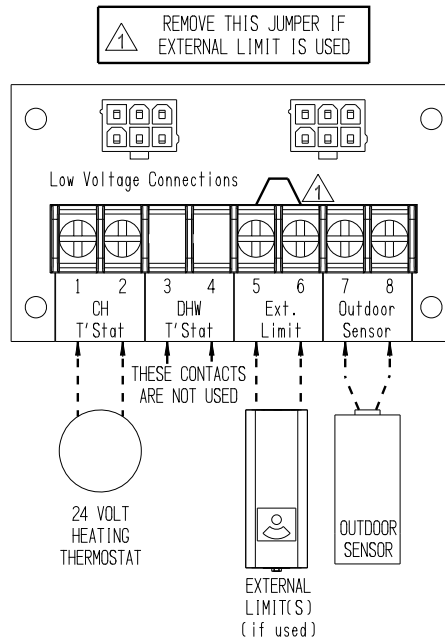

**Figure 11.1: Location of High and Low Voltage Field Electrical Connections**
Figure 11.1 shows the locations for making both high voltage and low voltage field connections.
1. Line Voltage (120 VAC) Field Connections – Leads for the line voltage connections are located in the junction box as shown in Figure 11.1. Provide a dedicated circuit for the boiler of 15A or greater. A service switch is recommended and is required by many local codes. Locate this switch in accordance with local codes or, in the absence of any, in a location where it can be safely accessed in an emergency involving the boiler. All 120VAC connections to the boiler itself are wire nut connections, except for the ground, which is a screw. The leads are color coded as follows: